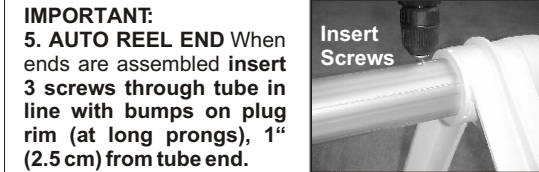

Fig. 7
- Insert 3 self-drilling screws (#5) through tube in line with bumps on plug rim (at Long Prongs) and 1" (2.5 cm) from tube end. (see Fig. 7).
5. Insert 3 Screws, 1" (2.5 cm) from tube end (See Fig. 7)
- Insert 3 self-drilling screws (#5) through tube in line with a bumps on plug rim (at Long Prongs) and 1" (2.5 cm) from tube end. (Fig. 7)
Attach a Strap Plate (extras included) to one end of all Straps provided (see Fig. 7).